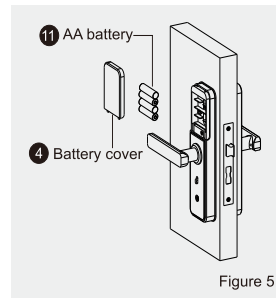

Figure 5
(5) As Figure 5:
- ① Put the Batteries correctly and fix the Battery cover.